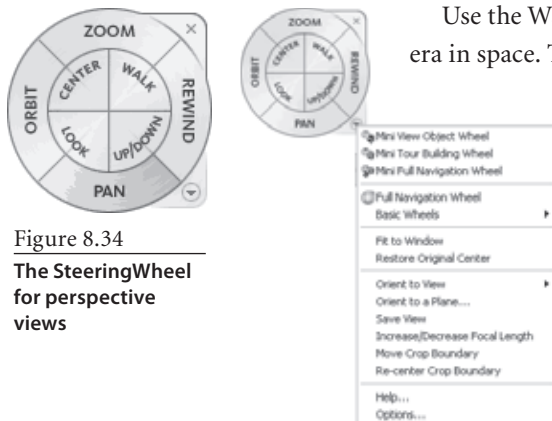

Figure 8.33
- The view will start to render. You'll see an image begin to appear in your view. You can cancel the rendering at any time by clicking the Cancel button at the bottom of the screen near the progress meter. When the render is finished, the image should look like Figure 8.33.